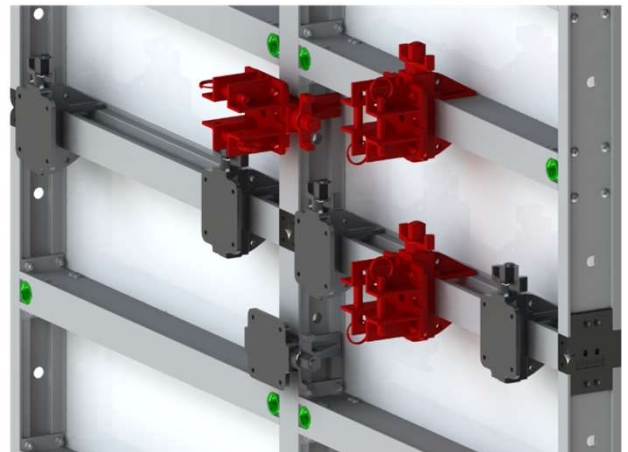

Figure 5. Use The Clamp/Two-Way Clip Assembly At Panel Joints To Replace STD. Clamp Or Place Elsewhere For Accessory Attachment
- Install Standard Clamp/Two-Way Clip assembly for use as a pipe brace head or for any alignment / lifting bar configurations. Reference alignment / lifting bar Safety Rules and Guidelines for more information on all possible configurations. (See Figure 5.)
- This assembly can also duplicate as a panel connection, replacing the standard clamp, when building formwork gangs. (See Figure 5.)